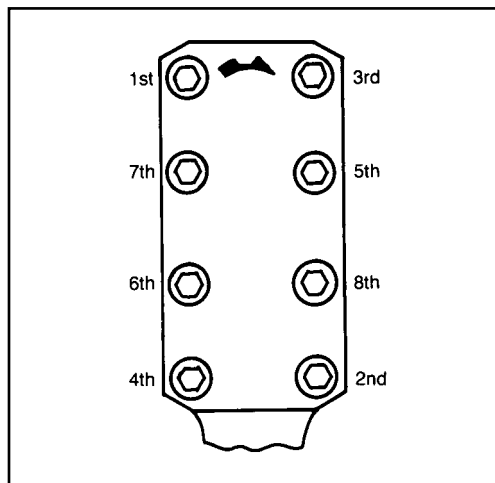
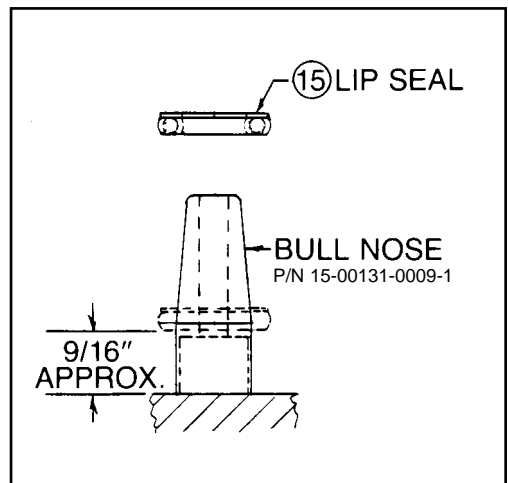

Figure 7
Figure 8
Place two layers of 400-Grit Emery Cloth on a lapping block or plate—a granite flat is suitable. Apply light pressure to the component and turn it in a "Figure 8" pattern (as shown in *Figure 1*) approximately 10 times until a smooth finish appears. Components that are commonly lapped are the sides of metering gears and the inside faces of front, rear and center plates. The components are now ready to be cleaned. An ultrasonic cleaner with a safe industrial solvent (Nu solution) is preferred, but you may also use a large container filled with about four inches of solution.
- 2) Fix Body (1) in a bench vise, inside face up. Install Port Seal Screws (24 & 26) with new Gaskets (25 & 27).
- 3) Lubricate Arbors (10). If the Arbors and Sleeve Bearing were removed, press Arbors into the Pump Body (1) using a Driven Metering Gear (6) as a guide for pressing arbors perpendicular (upright) to the plate. Reinstall Sleeve Bearing lead end first into Body (1) and press in place allowing Sleeve Bearing to project from inside face slightly less than the thickness of the Port Plate (5).
- 4) Carefully place Port Plate (5) over Arbors (10) making sure ports line up with ports in Body (1). Make sure plate is not 180° out of position; relief grooves face up toward Center Plate (4).
- 5) Assemble Driving Metering Gear (7), Round Key (12) and Drive Shaft (8).
- 6) Lubricate Sleeve Bearing and place Driving Metering Gear assembly into Body (1) and through Sleeve Bearing. Rotate several times to insure free rotation.
- 7) Place one Driven Metering Gear (6) on its arbor and rotate several times to be sure it is free. Repeat process for the other Driven Metering Gear (6).
- 8) Rub a slight amount of oil over gear recesses of the Center Plate (4), then carefully lower over the Metering Gears.
- 10) Place Rear Side Plate (3) over Center Plate (4) and screw in Binder Screws (28) finger tight. Again, make sure pump turns freely.
- 11) Tighten the Binder Screws (28) to 150 lbs.-in., 50% of the recommended tightening torque. Follow the order shown in *Figure 7*. Make sure the pump turns freely.
- 12) Tighten Binder Screws (28) (following the order shown in *Figure 7*) to recommended tightening torque of 305 lbs.-in. and make sure pump turns freely.
- 13) Turn the pump over (so the Drive Shaft is facing upward) and clamp on edges of Rear Side Plate (3) in vise.
- 14) Use of a Zenith® Lip Seal Installation Guide (Bullnose) is recommended to prevent seal damage. Place a new Lip Seal (15) over the Bullnose with spring-loaded open end facing down and push down firmly to slightly expand Lip Seal inside diameter. See *Figure 8*.